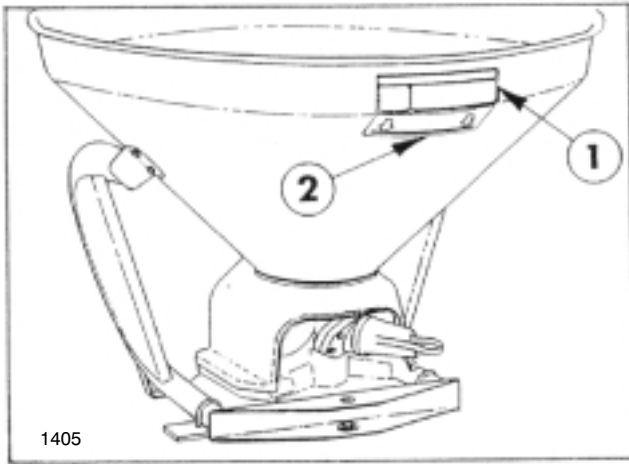

FIG. 9
11. Remove the backing and affix the "Maximum Sand Level" Decal directly below the existing "Capacity 1000 LBS." Decal, on the back of the Spreader Hopper. See FIG. 9.